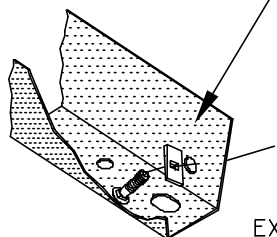
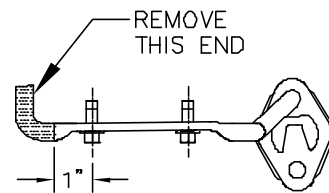

FIGURE 2.
FIGURE 3.
2. FISHWIRE CARRIAGE BOLT(S) AND 1/4 X 1 X 3 BLOCK(S) THROUGH ACCESS HOLE(S) AT END OF FRAME AND INTO EXISTING SLOT(S) IN BOTTOM OF FRAME. REMOVE FISHWIRE.
3. FISHWIRE CARRIAGE BOLT(S) AND 1/4 X 1 X 2 BLOCK(S) THROUGH ACCESS HOLE(S) AT END OF FRAME. KEEP BOLT(S) AND BLOCK(S) INSIDE FRAME UNTIL HITCH IS IN POSITION. LEAVE FISHWIRE(S) ON CARRIAGE BOLT(S) TEMPORARILY, FIGURE 2.
4. RAISE HITCH INTO POSITION. USE FISHWIRE(S) TO PULL CARRIAGE BOLT(S) THROUGH HOLE(S) IN HITCH BRACKET(S) ON DRIVER'S \*(OR BOTH) SIDES. LOOSELY INSTALL CONICAL TOOTHED WASHER(S) AND HEX NUT(S) ONTO CARRIAGE BOLT(S).
5. ON ALL BUT LATER MODEL 2009'S INSTALL THREE (3) 12mm THREAD FORMING BOLTS AND CONICAL TOOTHED WASHERS INTO EXISTING UNTHREADED WELDNUTS ON PASSENGER SIDE AS SHOWN. BOLTS WILL FORM THREADS.
6. CUT OFF THE END OF THE EXHAUST HANGER THAT EXTENDS INTO THE FRAME. SEE FIGURE 3.
7. REATTACH THE EXHAUST HANGER WITH THE (2) TWO M8 X 1.25 X 55mm BOLTS AND 7/16 SPACER BLOCKS AND REATTACH THE CARBON CANISTER REMOVED IN STEP 1.